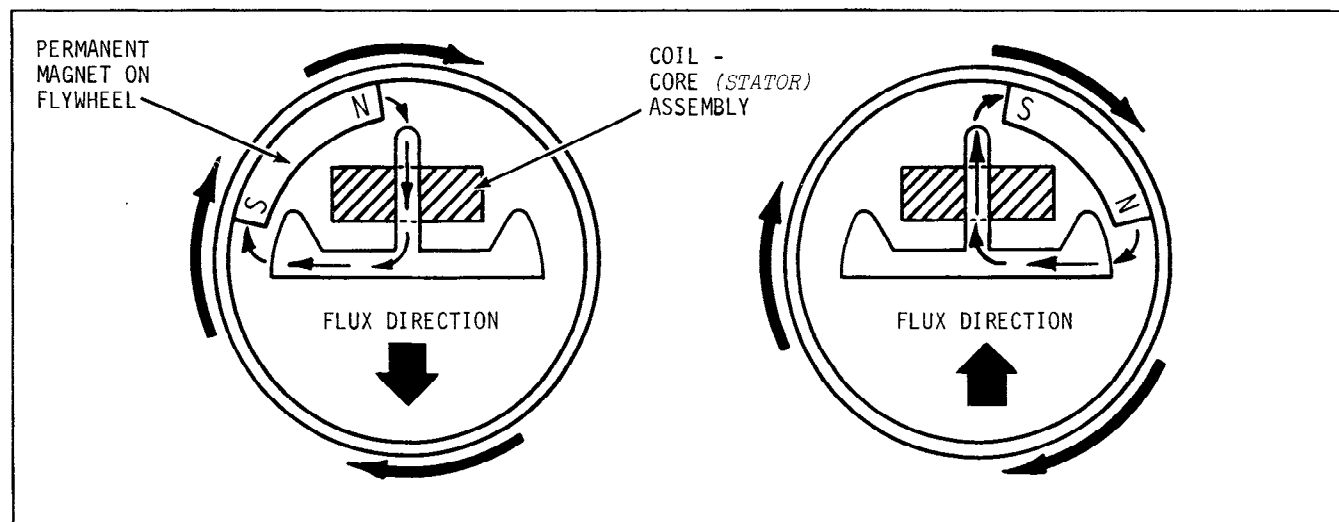

Figure 8-1. Magneto Cycle Showing Flux Reversal.
In all magneto ignition systems, high-strength permanent magnets provide the energy for ignition. In rotor type systems, the magnet is pressed onto the crankshaft and is rotated inside a coil-core assembly (stator) mounted on the bearing plate. In the other systems, a permanent magnet ring on the inside of the flywheel revolves around the stator. Movement of the magnets past the stator induces electric current flow in the stator coil (and in alternator and lighting coils if provided). The magnets are mounted with alternate North and South poles so that the direction of magnetic flux constantly changes, producing an alternating current (AC) in the stator coil windings. Refer to Figure 8-1.